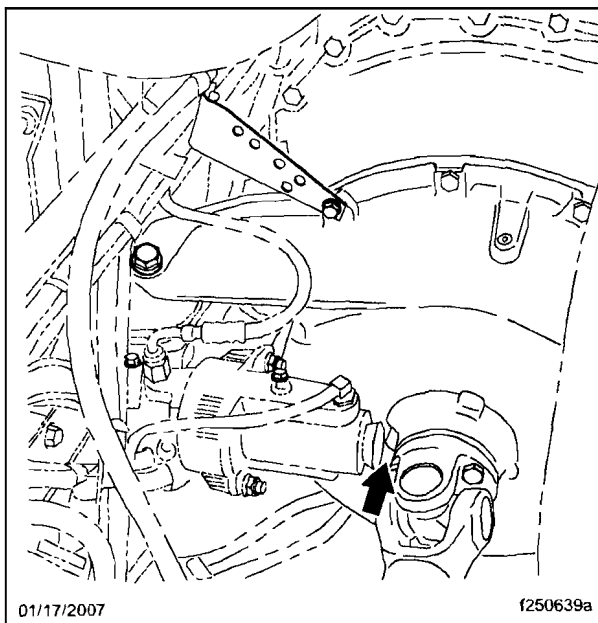

Fig. 4, Clutch Booster Clearance
2. Check for clearance between the clutch booster and the transmission input shaft. See Fig. 4.